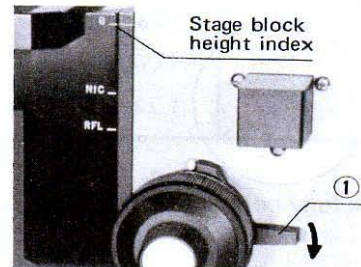

Fig. 14
This lever ① is provided to prevent possible contact between specimen and objective as well as to simplify coarse focusing. The lever is locked after coarse focus has been accomplished. This prevents further downward travel of the stage by means of the coarse adjustment knobs and automatically provides a limiting stop if the stage is raised and then lowered again. The automatic prefocusing lever does not restrict fine focusing (Fig. 14).
The stage block should be aligned with the stage block height index "B", engraved on the microscope stand (Fig. 14) for biological and tissue culture observation.